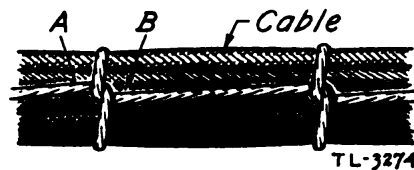

Figure 9
3. Cable wiring.—Cable wiring is used where a number of wires follow the same path. The wires are laced into a form, either before or after being soldered to their respective terminals, depending on the type of work being done. The wires are laced together with the lock stitch, illustrated in figure 9. *Do not use a half-hitch.* This knot will not hold the form together if the lacing cord is broken.
Note the points on the diagram in figure 9 marked "A" and "B." At these points the twine must be on the *under* side. If either "A" or "B" is on top when the stitch is made, it is called a *half-hitch* stitch. When the half-hitch is used it will come loose if the twine is broken.